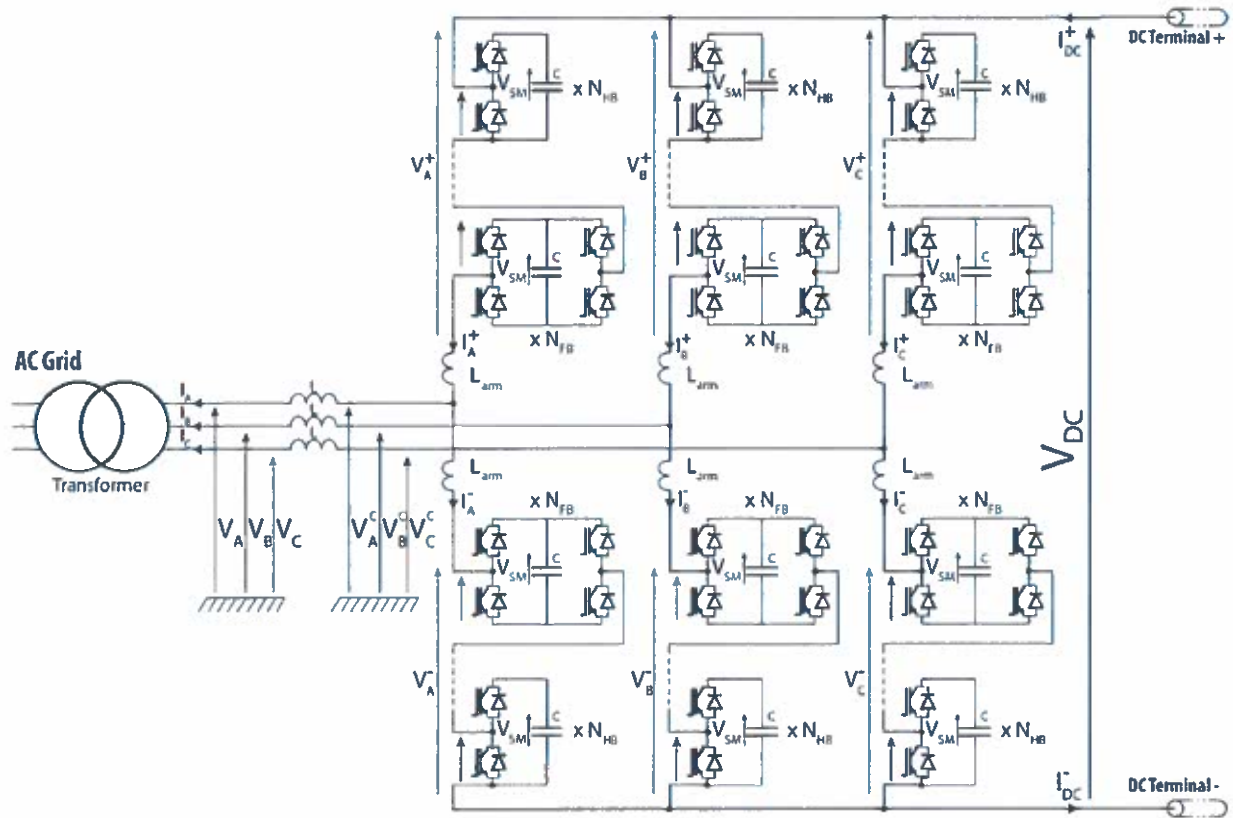

Figure 5.1 – Circuit diagram of a hybrid MMC
5. For this question, use the symbols, current and voltage directions shown in Figure 5.1. The hybrid MMC has part of its stacks consisting of half-bridge submodules ( $N_{HB}$ ) and full-bridge submodules ( $N_{FB}$ ). The total number of submodules per stack is  $N_{SM} = N_{HB} + N_{FB}$ . Please use the same current convention in your answers.